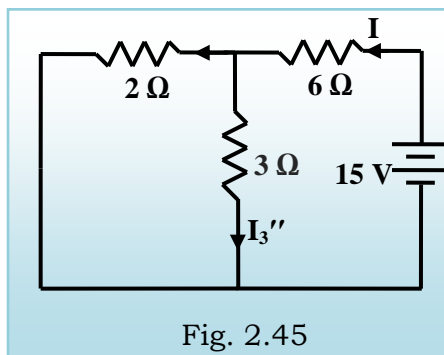

Fig. 2.45
**When 15 V is acting alone**, replace 10 V source by short circuit then the resultant circuit is given in fig. 2.45.